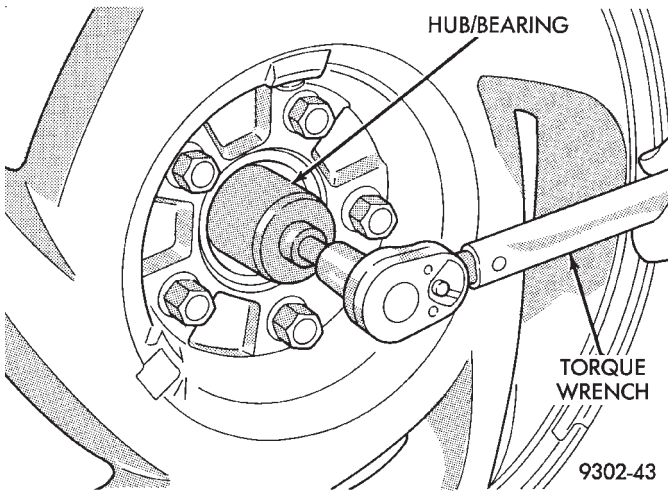

**Fig. 28 Torquing Hub And Bearing Retaining Nut**
(12) Apply the brakes to keep the vehicle from moving, then tighten the **NEW** stub axle retaining nut to a torque of  $163 \text{ N}\cdot\text{m} \pm 14 \text{ N}\cdot\text{m}$  (120 ft. lbs.  $\pm 10$  ft. lbs.) (Fig. 28).